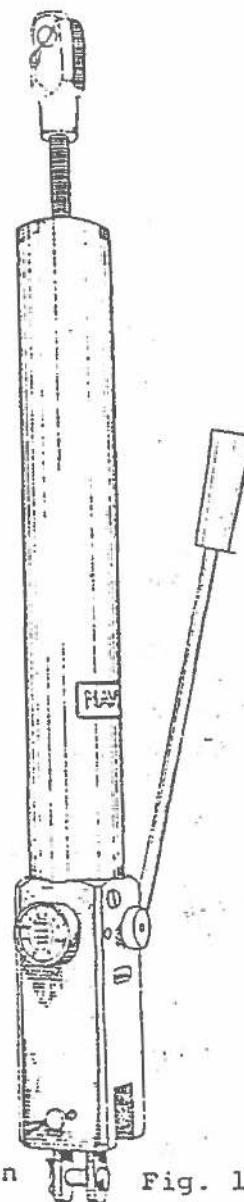

Fig. 1
- 4) Insert the nozzle of a clean squeeze bottle filled with clean 10 weight hydraulic or non-detergent engine oil into the fill hole making as good a seal as possible. Maintaining the cylinder in the orientation of Figure 1 alternately squeeze and release the bottle. Continue until no more air returns to the bottle. It is necessary to keep the squeeze bottle more than half full so that the hole leading to the nozzle is continuously flooded. When no more air returns to the bottle from the adjuster, the oil level inside is even with the top of the fill hole and the adjuster is correctly filled.